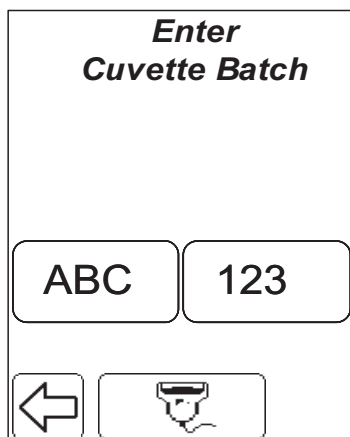
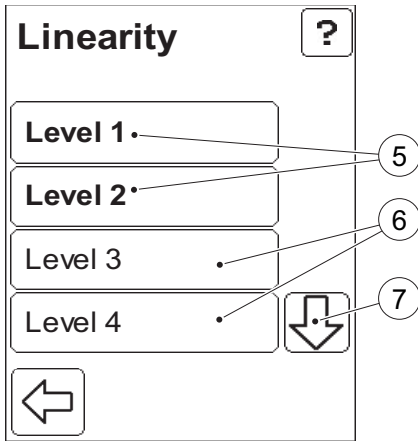
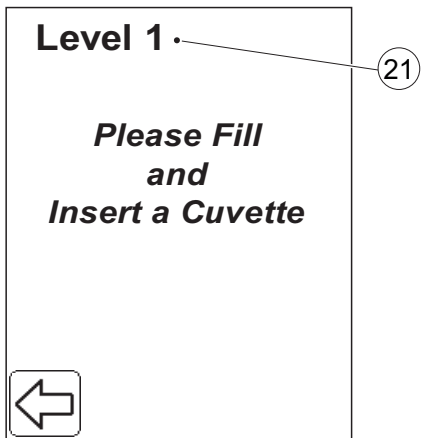

FIGURE 6-14
FIGURE 6-17
FIGURE 6-22
- d) To resume a previously interrupted linearity test, press Yes. *FIGURE 6-17* will be displayed. Otherwise press No. *FIGURE 6-14* will be displayed.
- e) If desired, change the kit name (3) either directly on the Display via the Text mode and Numeric mode buttons, or with the Barcode Scanner via the Barcode Scanner button.
- f) Press the Confirm button (4). *FIGURE 6-17* will be displayed.
- p) To confirm the displayed values and to save them for future comparisons to the measured value, press Save. *FIGURE 6-22* will be displayed. Otherwise press No. *FIGURE 6-17* will be displayed.
When Confirm is pressed all measurements for the designated level are rejected but still kept in memory, and FIGURE 6-17 is displayed.
To reject all measurements at the current level press Yes. *FIGURE 6-17* will be displayed.
If other levels of the linearity material need to be measured *FIGURE 6-17* will be displayed.